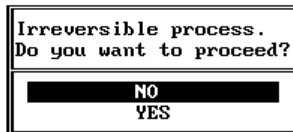

Figure 3-4. Add Capacity Warning Message
- The pack already has eight (8) drives (which may include disk device selections you just made)
5. If necessary, press the **Esc** key when you have finished your selection. The restriping process is ready to begin, and a warning message appears (Figure 3-4):